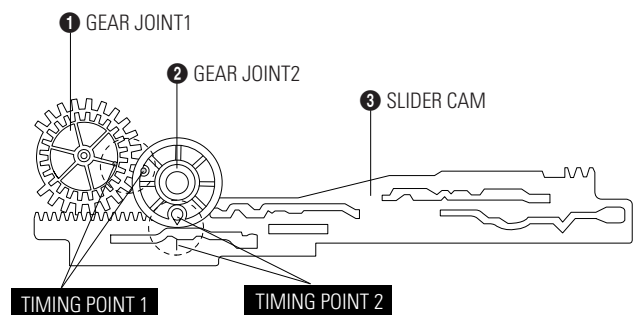

Fig. 1-13 Gear Joint 1,2 Assembly
- 1) Be sure to align dot mark of Gear Joint 1 ❶ with dot mark of Gear Joint 2 ❷ as shown Fig 1-13. (Refer to Timing point1)
- 2) Confirm the Timing Point 2 of the Gear Joint 2 ❷ and Slider Cam ❸.